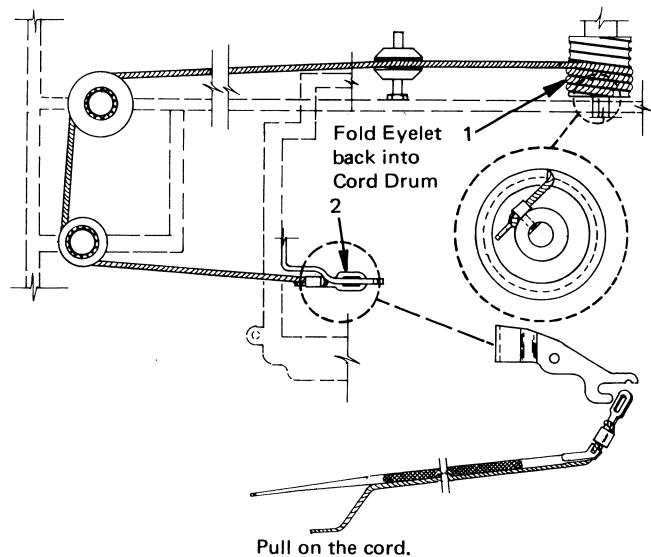

Figure 4-3. Carrier Return Cord Replacement
- With the carrier still at the extreme right, feed the carrier return cord around the pulleys and then connect it to the cord drum (No. 1, Figure 4-3).
- Connect the carrier return cord (No. 2, Figure 4-3), using the pusher end of a spring hook, as shown in Figure 4-3. Insert the spring hook underneath the carrier and hook the eyelet on its mounting bracket.